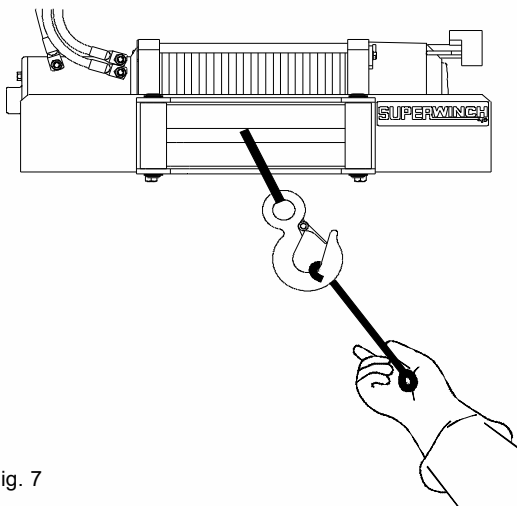

Fig. 7
- 1.6 **KEEP HANDS AND FINGERS CLEAR OF WINCH ROPE AND HOOK WHEN OPERATING WINCH.** Never put your finger through the hook when reeling in the last few feet. If your finger should become trapped in the hook or rope, you could lose your finger. Use the **HAND SAVER BAR** (Fig 7) to guide the hook for the last few feet. Never guide a wire rope under tension onto the drum with your hand.